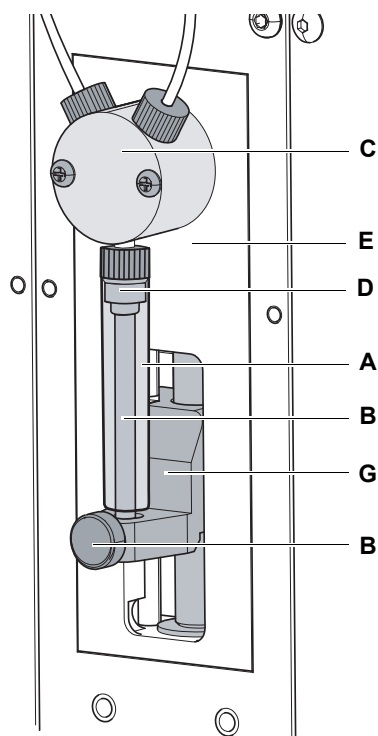

Fig. 7-24 Syringe components
- 1 Loosen the plunger lock screw (H) Fig. 7-24 , Fig. 7-37.
- 2 Move the plunger drive downwards (G) with EVOware Fig. 7-24 , Fig. 7-37.
- 3 Remove syringe (A) from valve (C) Fig. 7-24 , Fig. 7-37.
- 1 Pull the plunger (A) out of the syringe barrel Fig. 7-24 , 7-37.
- 2 Carefully cut out a piece of the syringe cap (K) as shown Fig. 7-24 , 7-37: